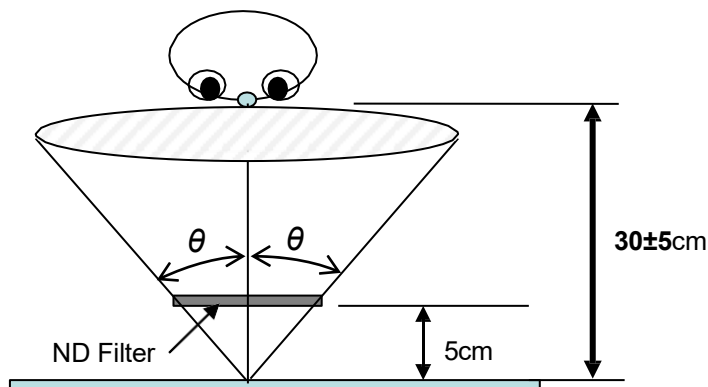

Fig. 1
- 5.3 Distance: 30±5 cm in front of LCD unit with a viewing angle of $\theta = 10^\circ$.(refer to figure 1)
ND filter use method: The inspection method of ND Filter - holding ND filter in front of the panel around 5 cm and examine the panel from **30±5** cm in the front view for **3** seconds. (Fig. 1)